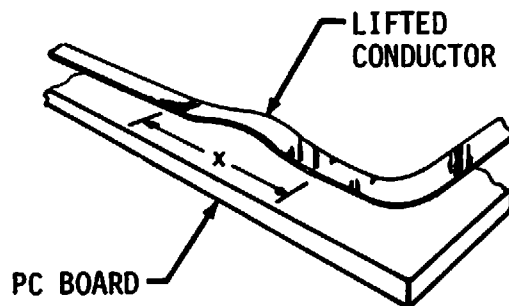

FIGURE 4-4. TYPICAL LIFTED CONDUCTOR
- 4-33., Repairing Lifted Conductors. A lifted conductor is present when a portion of the conductor is separated from the PC board surface, but is not broken (See Figure 4-4).
NOTE: The length of the lifted conductor which is repairable shall not exceed one half the length of the conductor path between two terminal areas or one half inch, whichever is smaller. See dimension X in Figure 4-4.